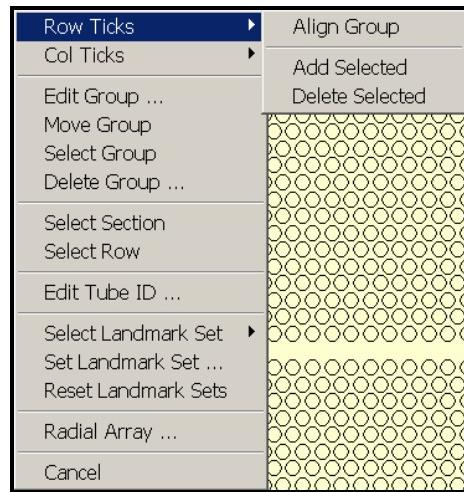

Figure 47. Popup Menu – Row Ticks Fly-out Menu
- **Popup| Row Ticks:** Clicking the **Row Ticks** selection on the **Popup** menu displays the fly-out menu shown in Figure 47. Each selection is discussed below:
- **Popup | Col Ticks:** Clicking the **Col Ticks** selection on the **Popup** menu displays a fly-out menu with the same choices shown in Figure 47. These three (3) features function in the same way as the **Row Ticks** selection previously discussed, except for column ticks instead. Please refer to the **Popup | Row Ticks** topic above for use of these features.